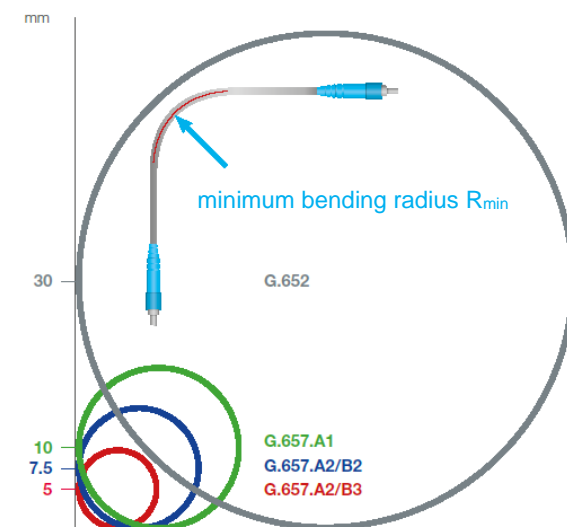

Figure 2: Minimum bending radius R_{min} with depicted bending radii of G.652 and G.657 singlemode fibers.
- Never expose the fiber or cable to a bending radius R less than the *minimum bending radius* R_{min} (see Fig. 2). The minimum bending radius depends on the type of cable/fiber and are specified in the SPINNER data sheets. Typical values are indicated below: